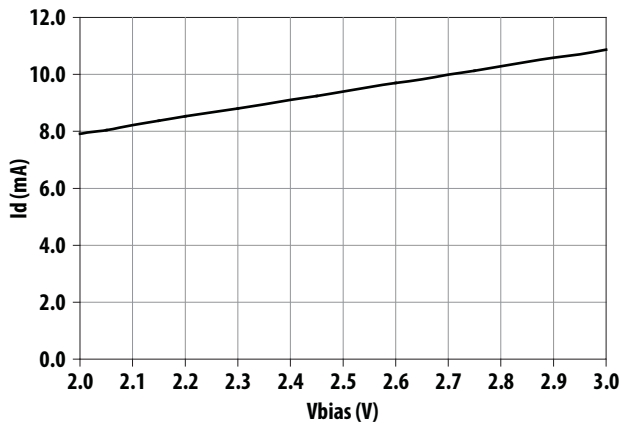

Figure 5. Id vs Vbias (Vdd = 3 V; Vsd = 0 V). Vbias is varies in this plot.
- Device operation in LNA mode if $V_{bias} > 2.2\text{ V}$ and $V_{sd} < 0.5\text{ V}$. Bias current of LNA can be varied with different values of V_{bias} for $V_{bias} > 2.2\text{ V}$. See Fig 5 below.